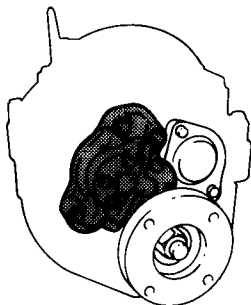

Fig. 4. Oil Pump Mounting — anti-clockwise engines
- Fig. 4 Oil pump mounting - anti-clockwise engines